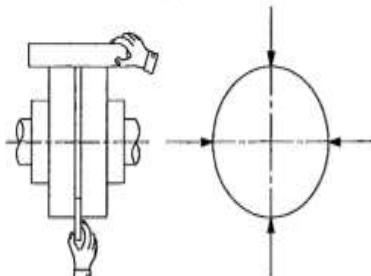

Fig.2 Check with straight edge and thickness gauge
- After removing coupling bolts, as shown in Fig.1 or Fig.2 check alignment by measuring parallel and angular misalignment at 4 points, 90° apart, on the coupling periphery.